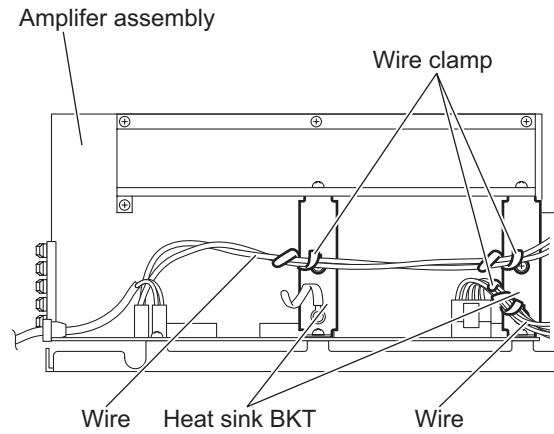

Fig.6
3.4.4 Removing the heat sink BKT (See Figs.6 and 7)
- (1) From the left side of the amplifier assembly, remove the wires from the wire clamp on the heat sink BKT. (See Fig.6)
After attaching the heat sink BKT, bundle the wire by the wire clamp. (See Fig.6)